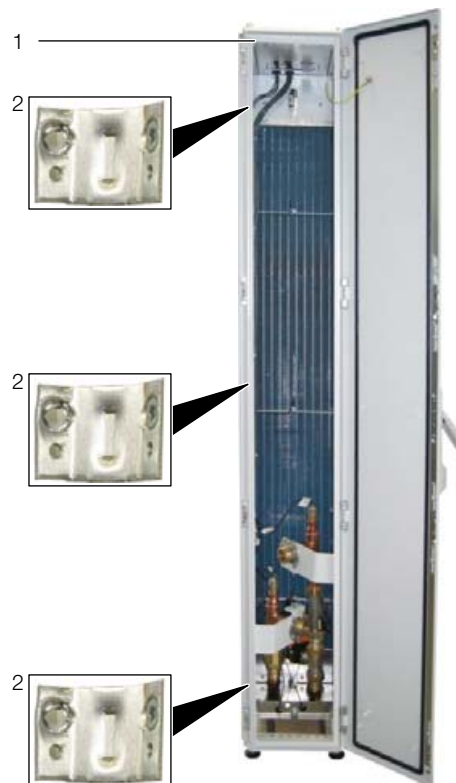

Fig. 24: LCP Rack – rear
- Using the corresponding assembly screws, fasten three baying connectors (Fig. 24, item 2) each onto the intended attachment points in the mounting strips on the front and rear of the server enclosure (Fig. 24, item 1).